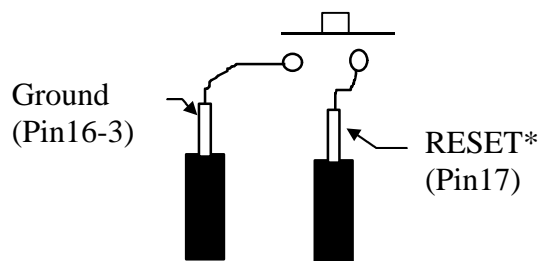

Figure 16 Connectors for the Download-Run and RESET switches.
3. Wire the push button *Reset* and the *Download-Run* switches according to the circuit in Figure 10 and Figure 16. The power *On-Off* switch is wired in Section 6.7.